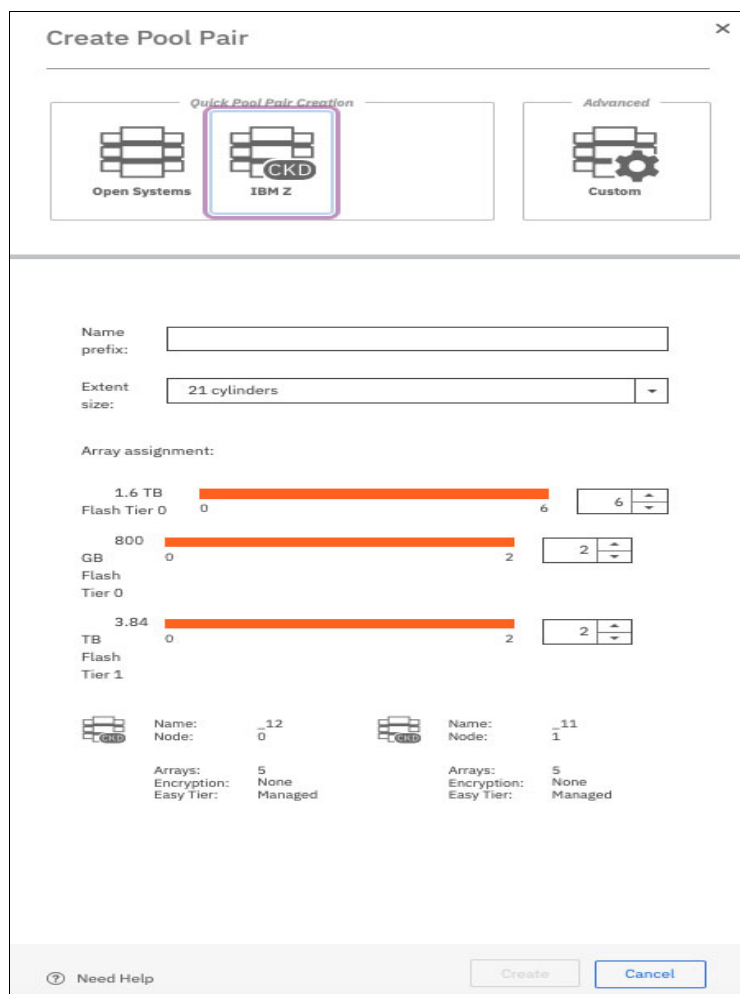

Figure 9-68 Creating the CKD pool pair and assigning arrays to the pool pair
4. In the Create Pool Pair window that is shown in Figure 9-68, select the number of arrays to assign to the pool pair.